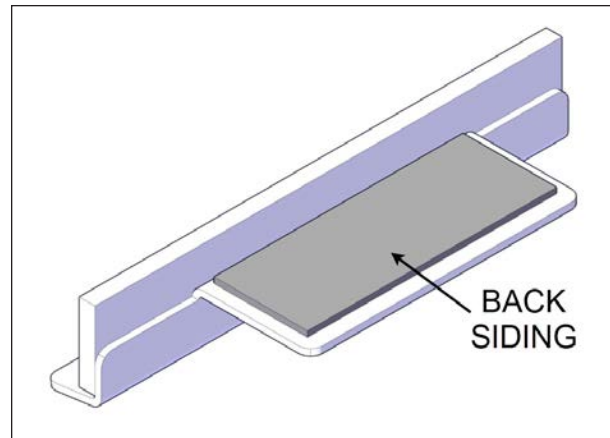

FIGURE 97: WIPER
2. Peel back the red siding of the double-sided tape of one wiper see Figure 97.